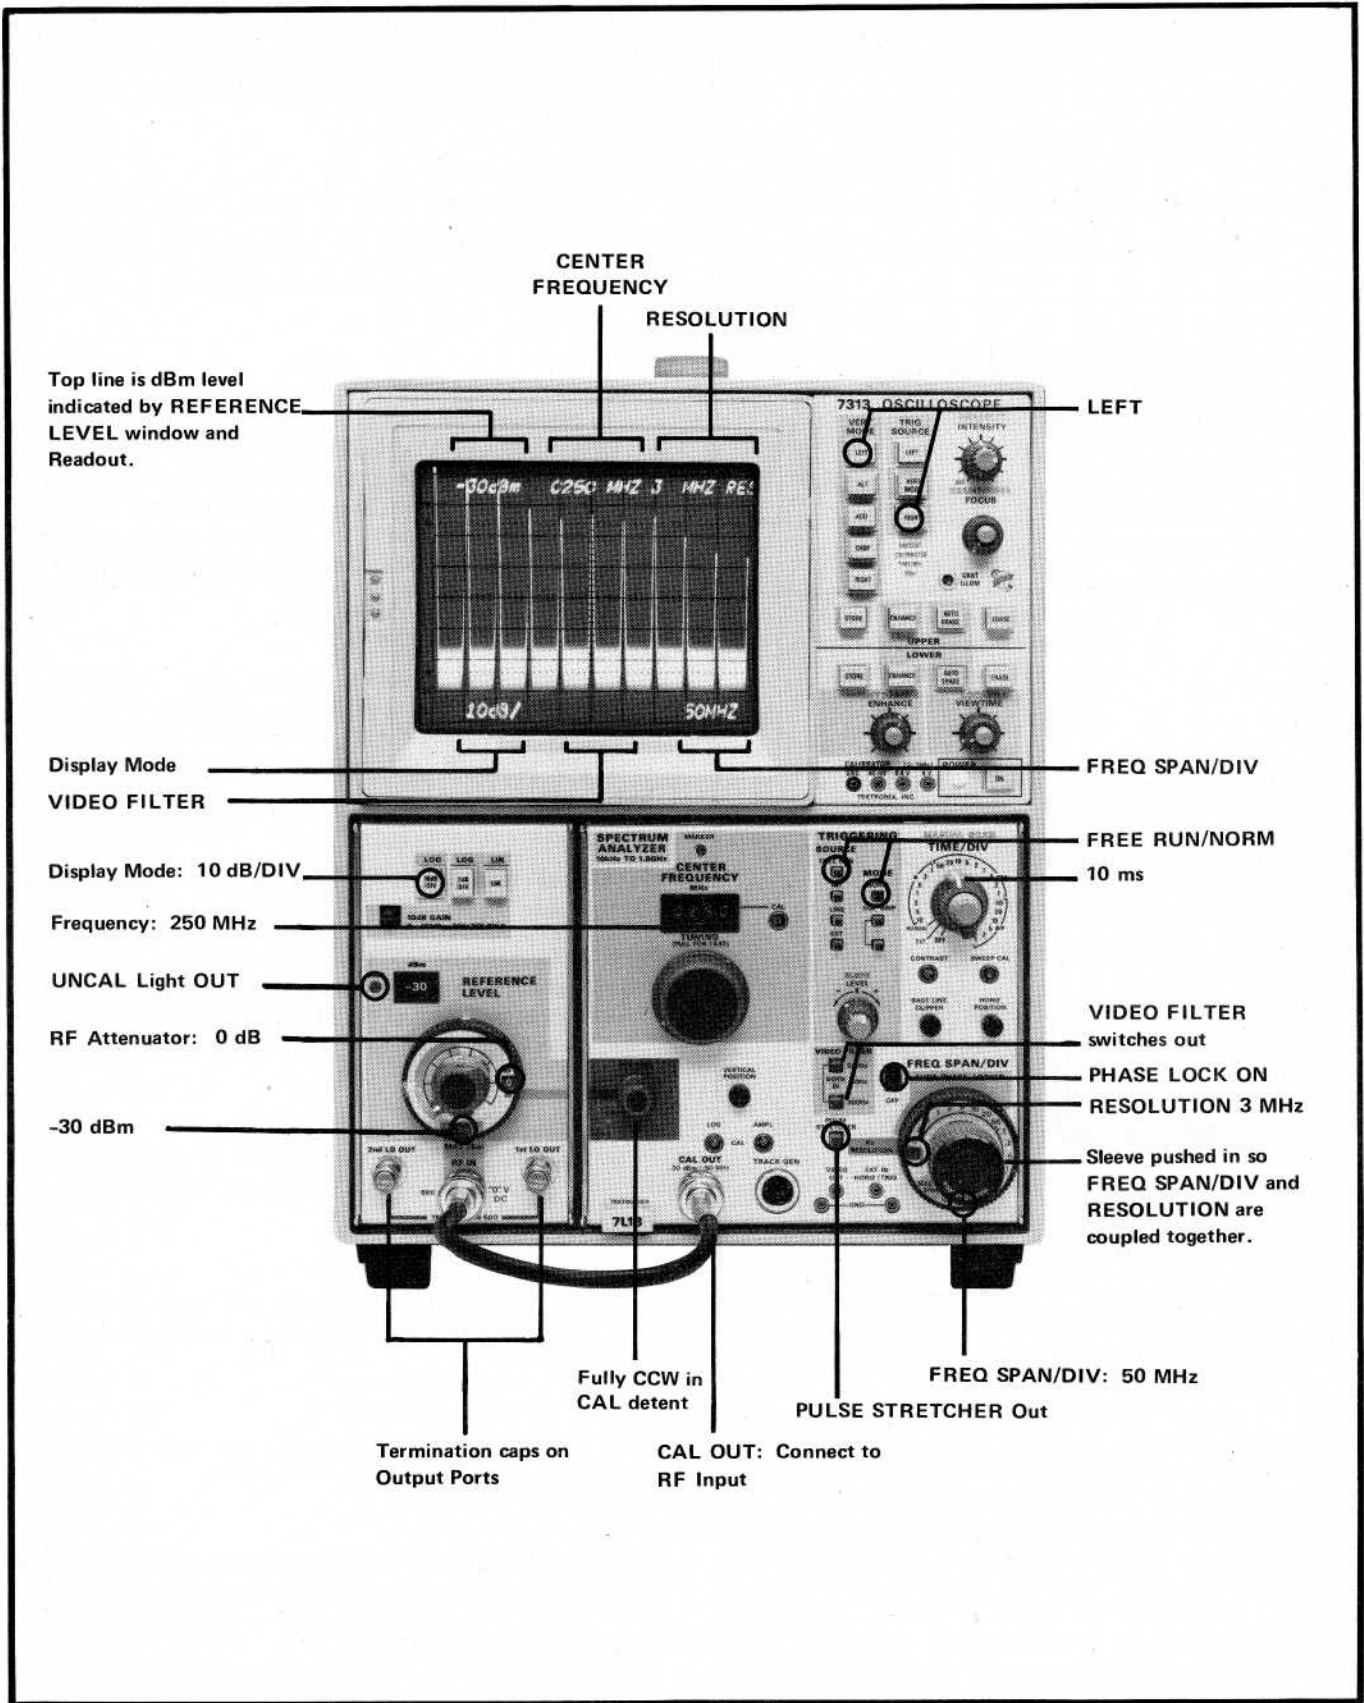

Fig. 2-2. Front panel selector positions and signal connections for initial operational check and front panel calibration.
c. Set the front panel controls as illustrated in Fig. 2-2 and connect the CAL OUT signal through a short coaxial cable to the RF Input.
f. Depress the 10 dB/DIV (LOG) display button. Display should now resemble that shown in Fig. 2-2.